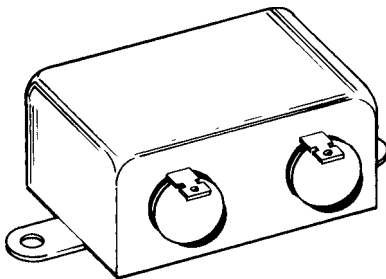

Figure 9-9 Oil-filled capacitor.
**Oil-filled capacitors.** Oil-filled capacitors are paper capacitors encased in oil. They are sometimes referred to as bathtub capacitors (see Fig. 9-9). The main advantages of these capacitors are sturdy construction and high voltage breakdown ratings. They are used in places where grease and oil are likely to be encountered.